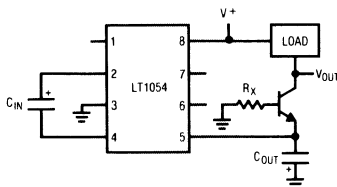

Figure 3
**VOUT (Pin 5):** In addition to being the output pin, the pin is also tied to the substrate of the device. **Special care must be taken in LT1054 circuits to avoid pulling this pin positive with respect to any of the other pins.** For circuits with the output load connected from V+ (Pin 8) to VOUT (Pin 5), an external transistor must be added as shown in Figure 3. This will prevent VOUT (Pin 5) from being pulled above the ground pin (Pin 3) during start-up. Any small, general purpose transistor such as 2N2222 or 2N2219 can be used. RX should be chosen to provide enough base drive to the external transistor, so that it is saturated under nominal output voltage and maximum output current conditions.